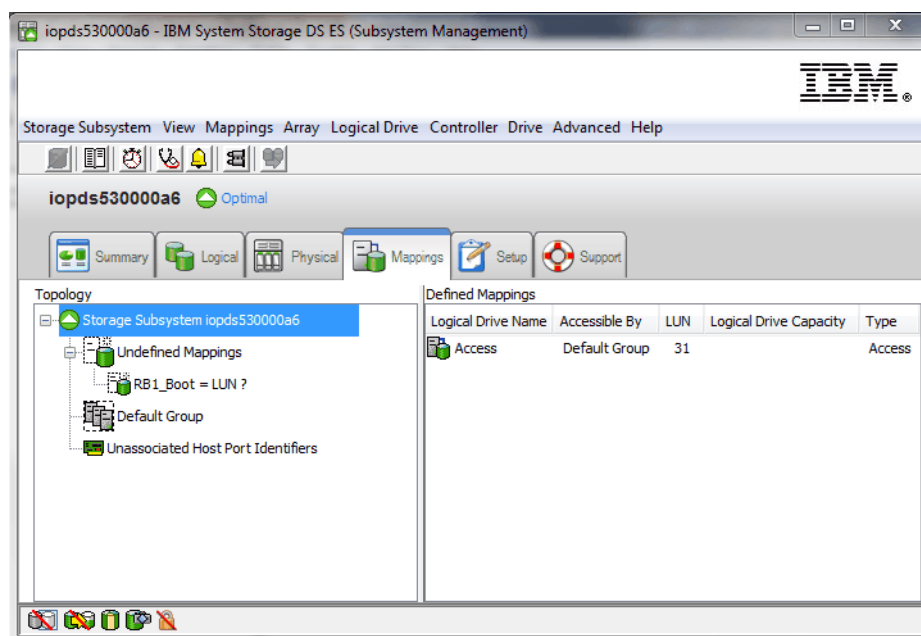

Figure 2-60 Undefined Mappings view
- After the logical drive is created, click the **Mappings** tab. Here you will see the logical drive that you just created. You will see it under **Undefined Mappings**, as shown in Figure 2-60.